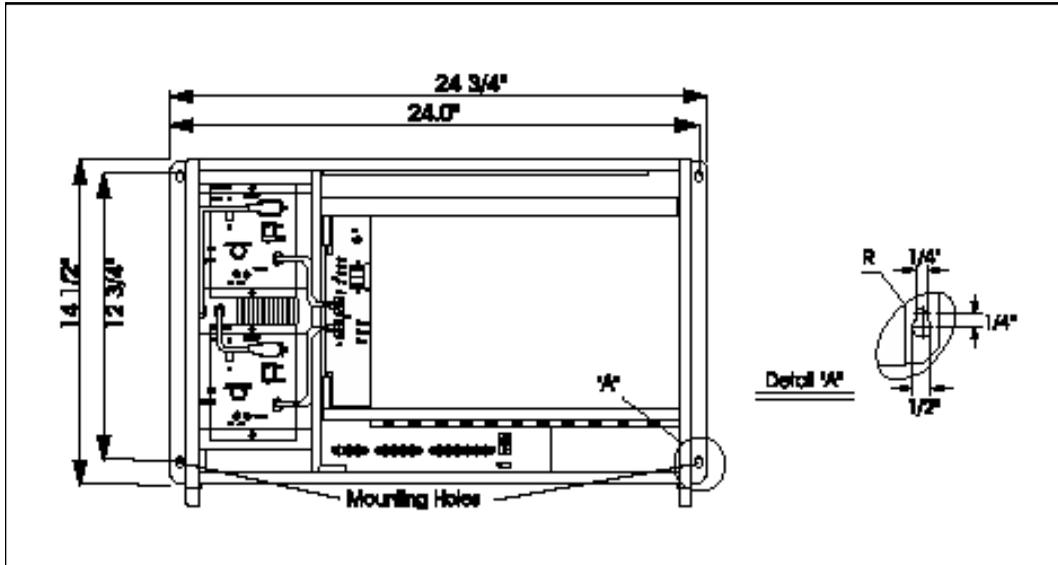

Figure 3-2: BKSU Mounting Holes
Using the KSU mounting template provided with the BKSU, mark the location of the four screws to mount the BKSU. Again, the KSU must NOT be mounted on a masonry or dry-wall surface, in this case a wooden back-board is required. Refer to Figure 3-2 for the distance between mounting holes.
2. Remove the two screws holding each plate and lift the plate from the BKSU. Refer to Figure 3-2.
2. Remove the two screws holding each plate and lift the plate from the BKSU. (Refer to Figure 3-2.)
As indicated in Figure 3-2, the *Triad 3* System can be equipped to provide operation from external batteries if local AC power fails. The Back-Up batteries are connected to the terminal block of the BKSU/EKSU1 cabinets.